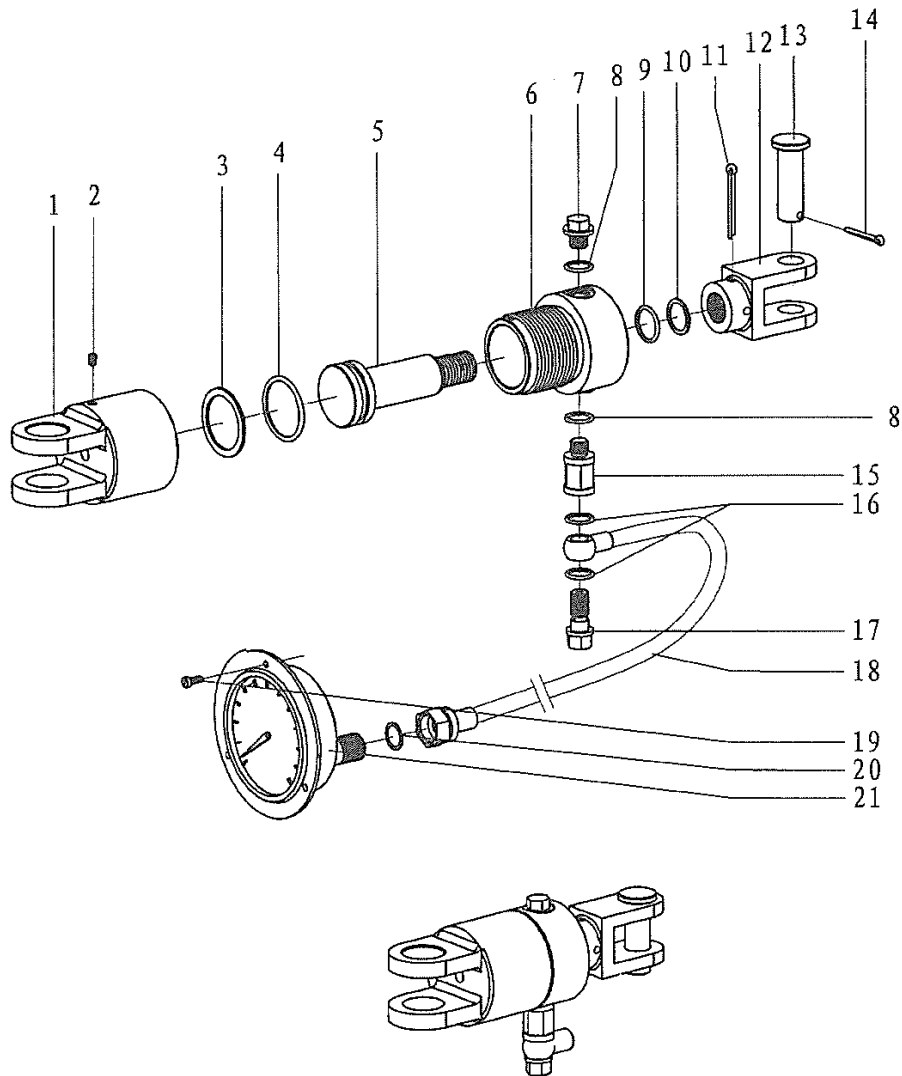

Fig20.
8.9 Pulling cylinder (Fig20. Table20)